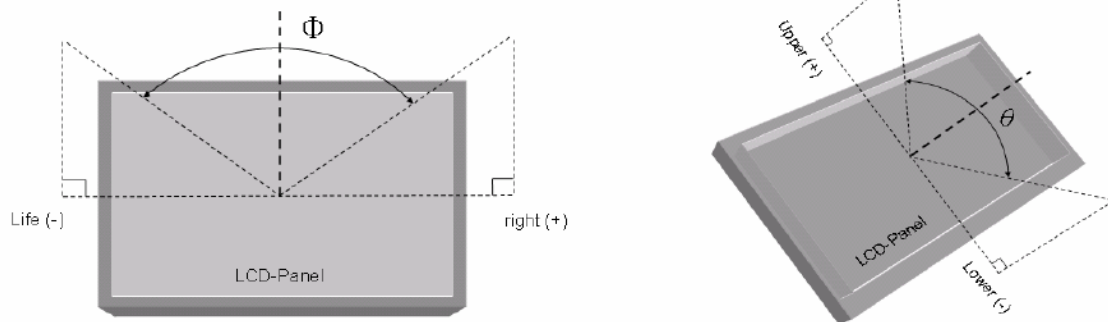

Fig9-2 Definition of Viewing Angle
(4) Definition of Viewing Angle(Θ, Φ), refer to Fig9-2 as below :